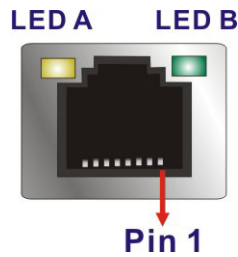

Figure 3-25: LAN Connector
- CN Pinouts: See **Figure 3-25** and **Table 3-23**